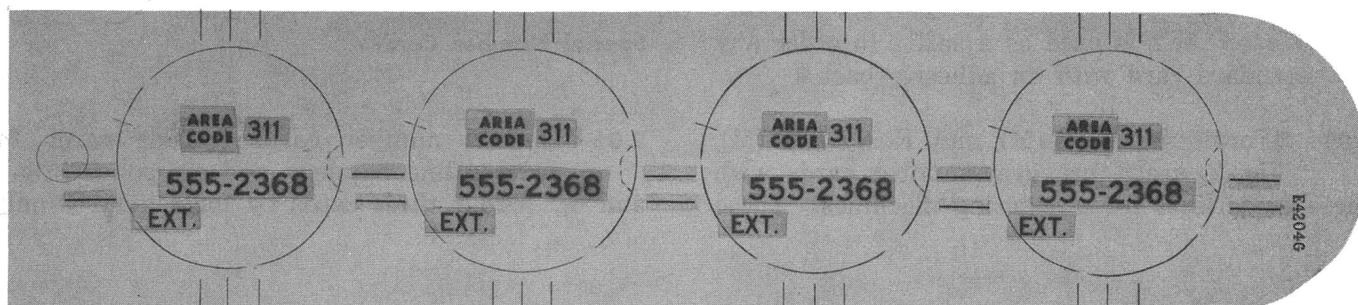

Fig. 3—Form E-4204-G (Quantity of Four)
2.04 Forms E-4204-G (Fig. 3) and E-4204-GEZ are 3-line, gray number cards with three guide lines for numbering machines. Form E-4204-G is a permanent number card to be mounted in the card holder or fingerwheel. Form E-4204-GEZ has an adhesive back and is a temporary card to be pasted on the window. ♦These forms are intended for use with nonmodular rotary dial sets.♦